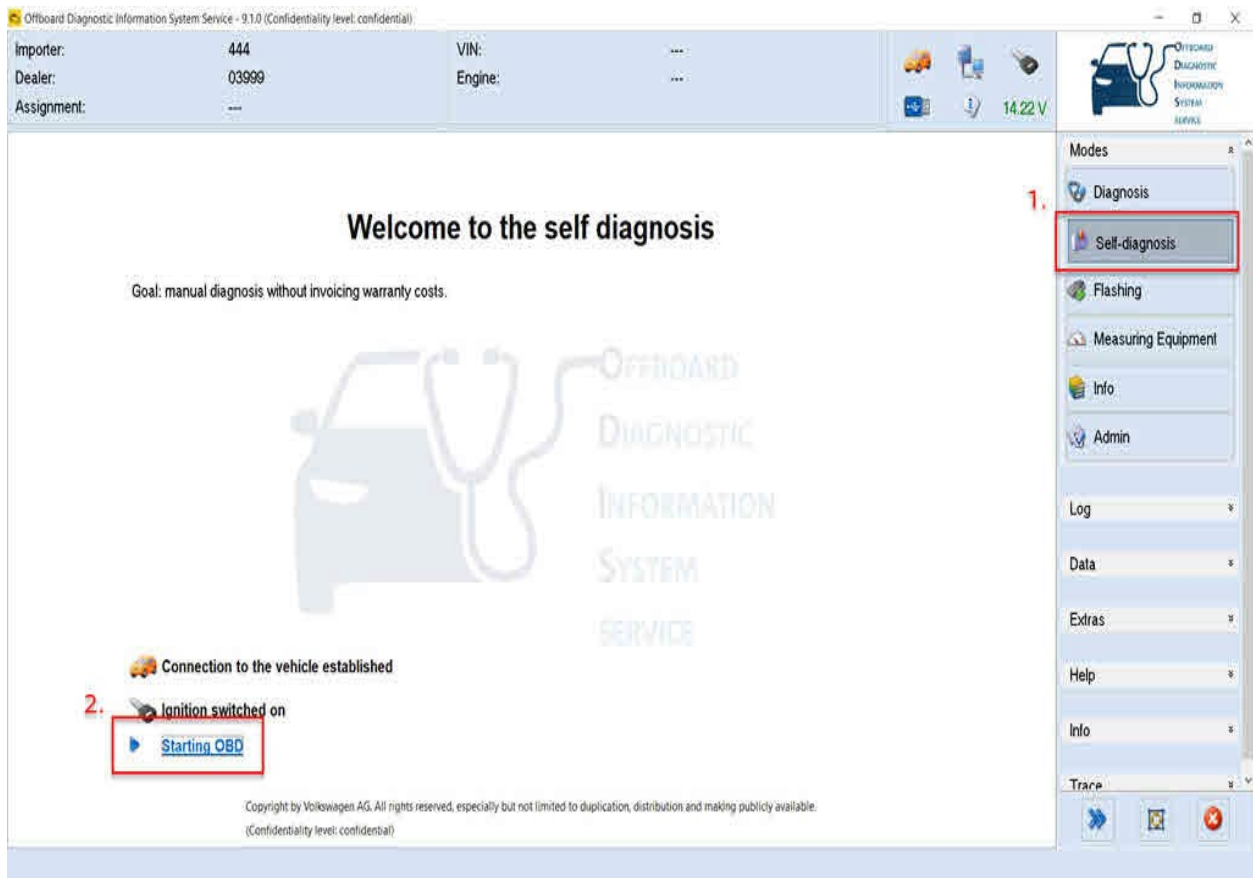

Figure 2: ODIS Start page.
1. On the ODIS start page, select “*self-diagnosis*” and then select “*Starting OBD*” (Figure 2).